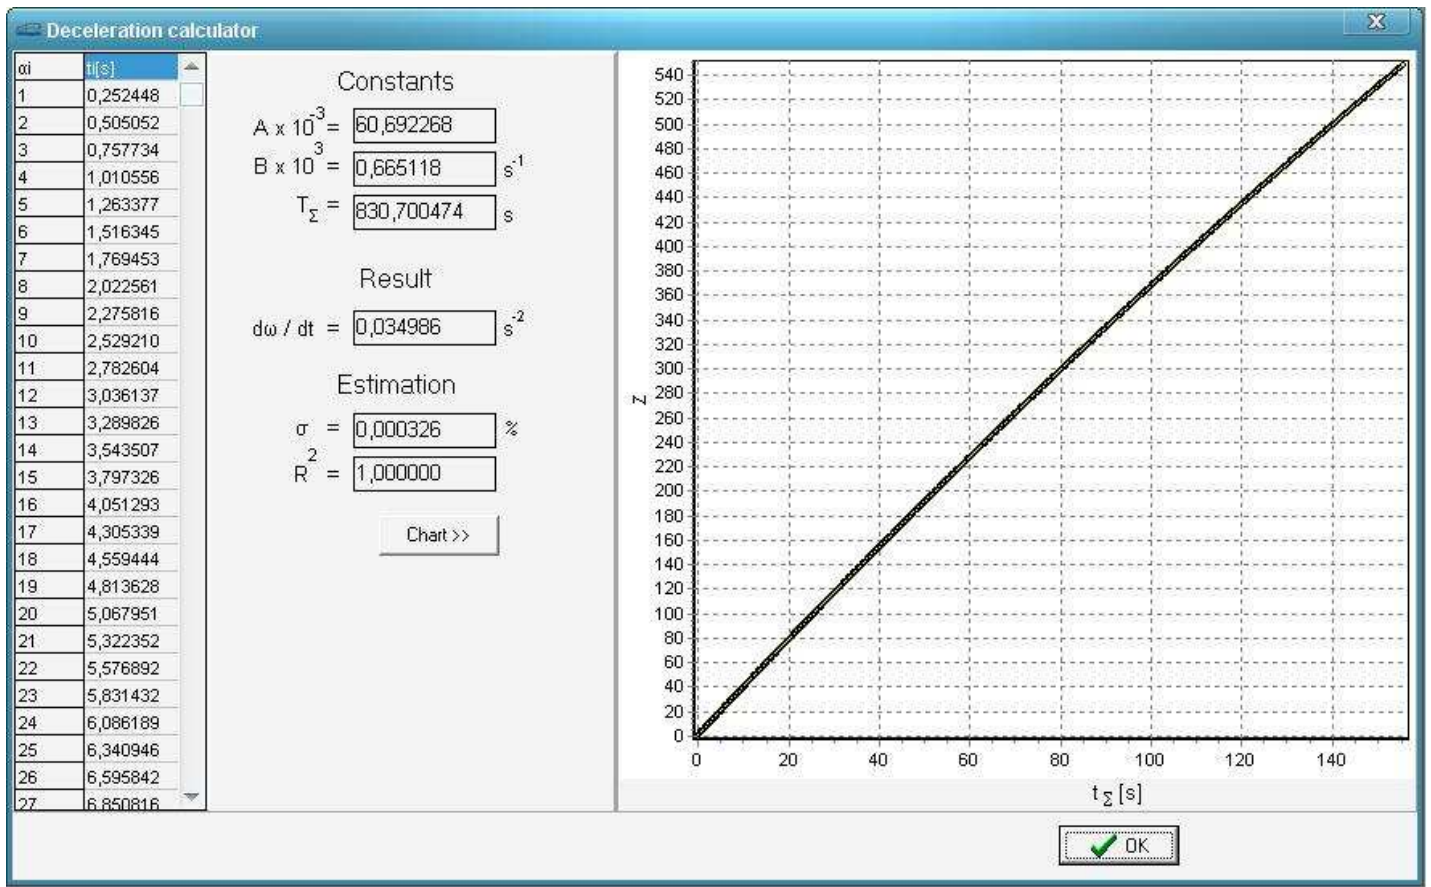

Figure 3. Window with test results.
3. The program loads chosen file and next information will appear (figure 3) which contains: